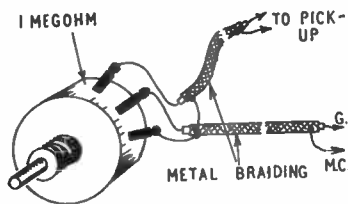

Fig. 1—Gram volume control
Commence assembly with the ranch house as shown in Fig. 1. The ends (3) go inside the front and back (1 and 2) and lengths of triangular fillet are glued inside the corners. Next add pieces 4 and 5, again strengthening at the corners with triangular fillet.
As the receiver volume control only functions on radio, a further control, for records only, is mounted near the turntable. Connections for this potentiometer are shown in Fig. 1, which also indicates how the leads from the pick-up are screened. Many pick-ups already have a screened lead issuing from the base of the mounting, and this can then be taken to the volume control.